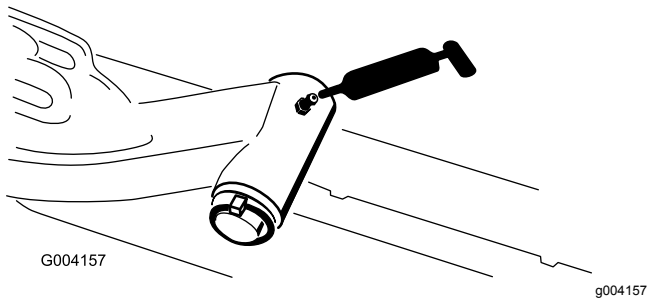

Figure 44
- Lift-arm-pivot shaft (1 each) (Figure 44)